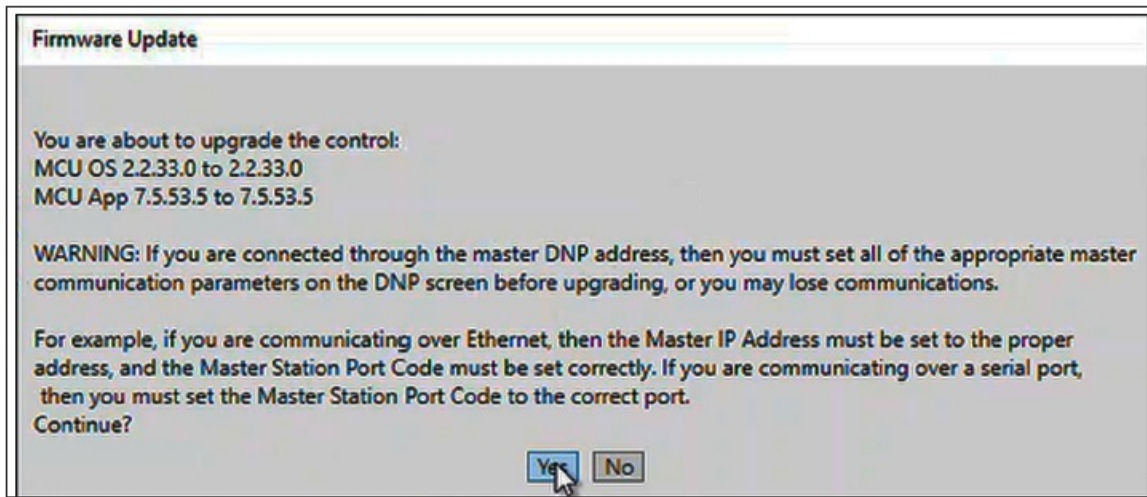

Figure 21. The Firmware Update dialog box.
- **STEP 10.** In the Firmware Update dialog box, click on the Yes button. See Figure 21. Selecting "No" will end the Update process.